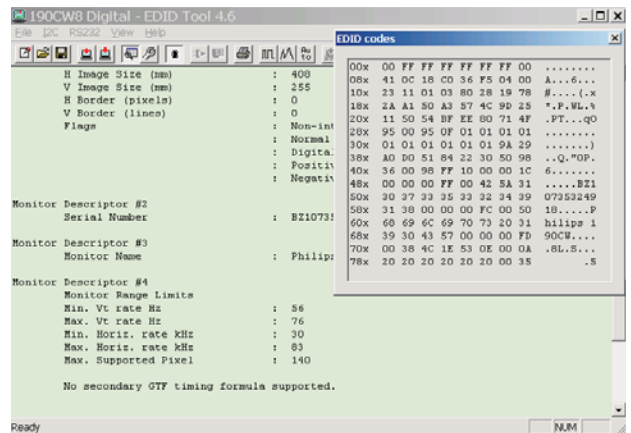

Fig. 30
- Click  icon (Read EDID function) to read DDC EDID data from monitor. The EDID codes will display on screen as shown in Fig. 30.